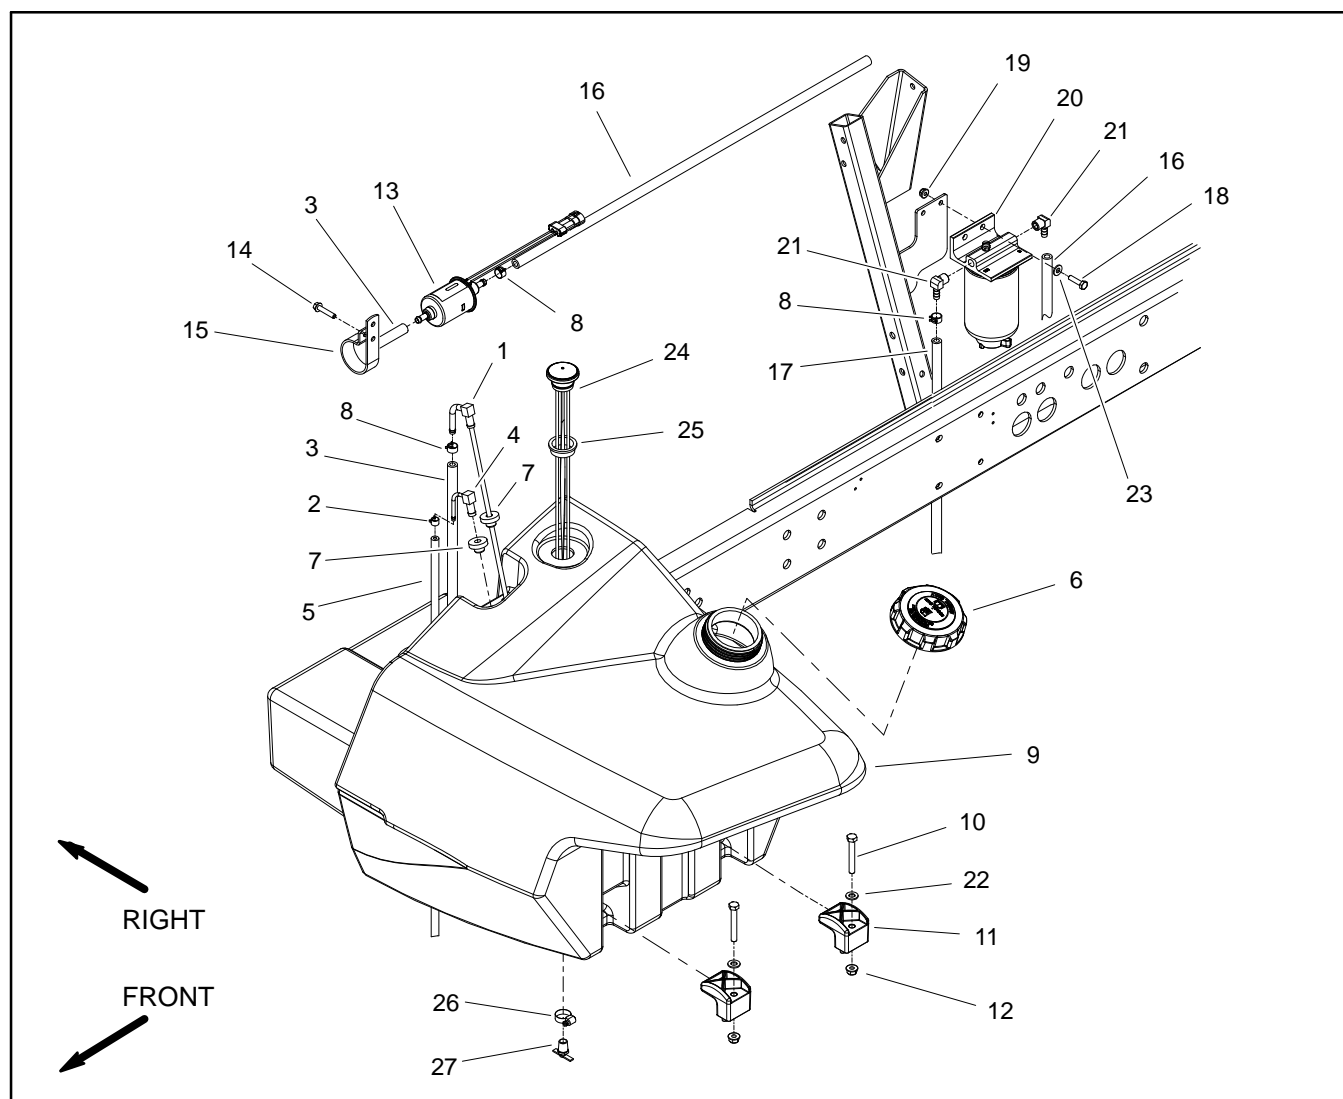

Figure 5
### Fuel Tank Removal (Fig. 5)
4. Remove fuel tank from machine using Figure 5 as a guide.
### Fuel Tank Installation (Fig. 5)
1. Install fuel tank to frame using Figure 5 as a guide.